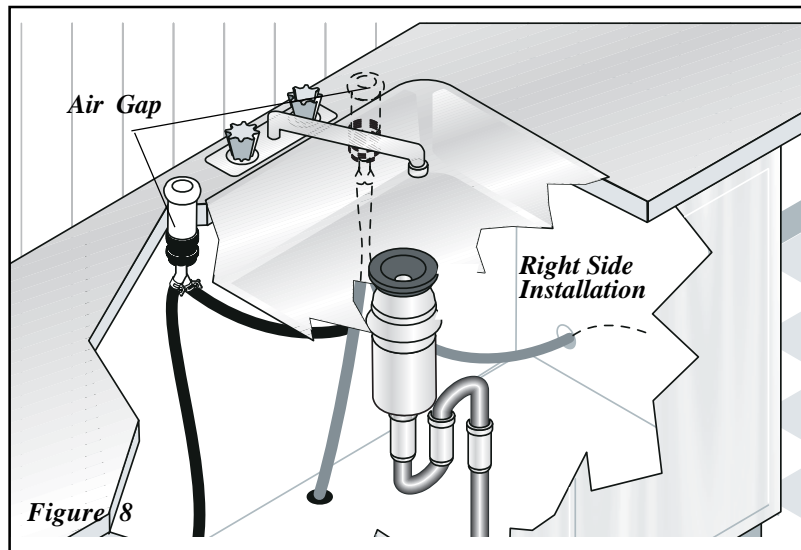

Figure 8
3. If you connect to a sink trap, local codes may require you to install an air gap kit, (not included). The drain hose will be routed from dishwasher to air gap inlet as shown in Figure 8. An air gap kit is available from a plumbing supply store. (If the drain hose is installed through the floor, an air gap is necessary).